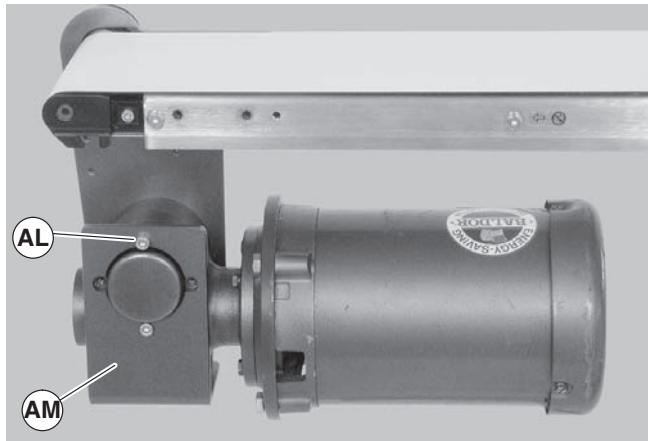

Figure 26
6. Remove two (2) bracket screws (Figure 26, item AL) and remove bracket (AM).